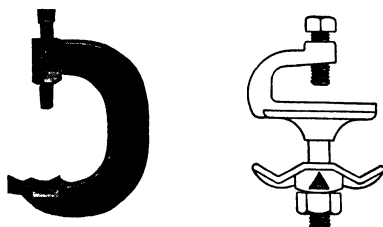

Fig. 43. Clamps for Fastening Conduit to Structural Steel
**Beam Clamps.** For running at an angle to or parallel with an angle-iron, I-beam or similar structural member, clamps similar to the ones shown in Fig. 43 (left) can be used for single runs of medium sized and smaller conduits. The one shown in Fig. 43 (right) is suitable for two conduits.